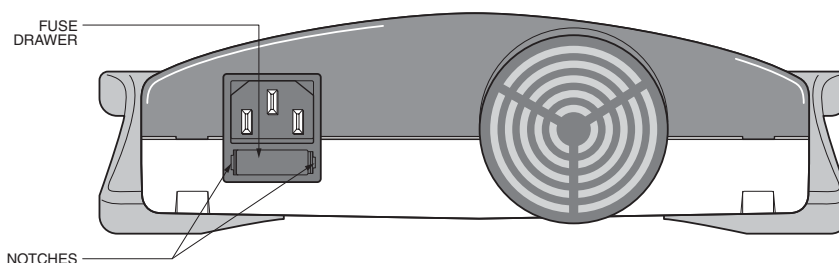

Fig. 7. Rear view Showing Fuse Drawer with Notches.
2. Use a fingernail or a flat blade screwdriver to gently press the tabs on the side of the fuse holder toward each other. This will release the fuse holder and the fuses. See Figure 7. Inspect the fuses visually to determine if one or both of the fuses are blown.